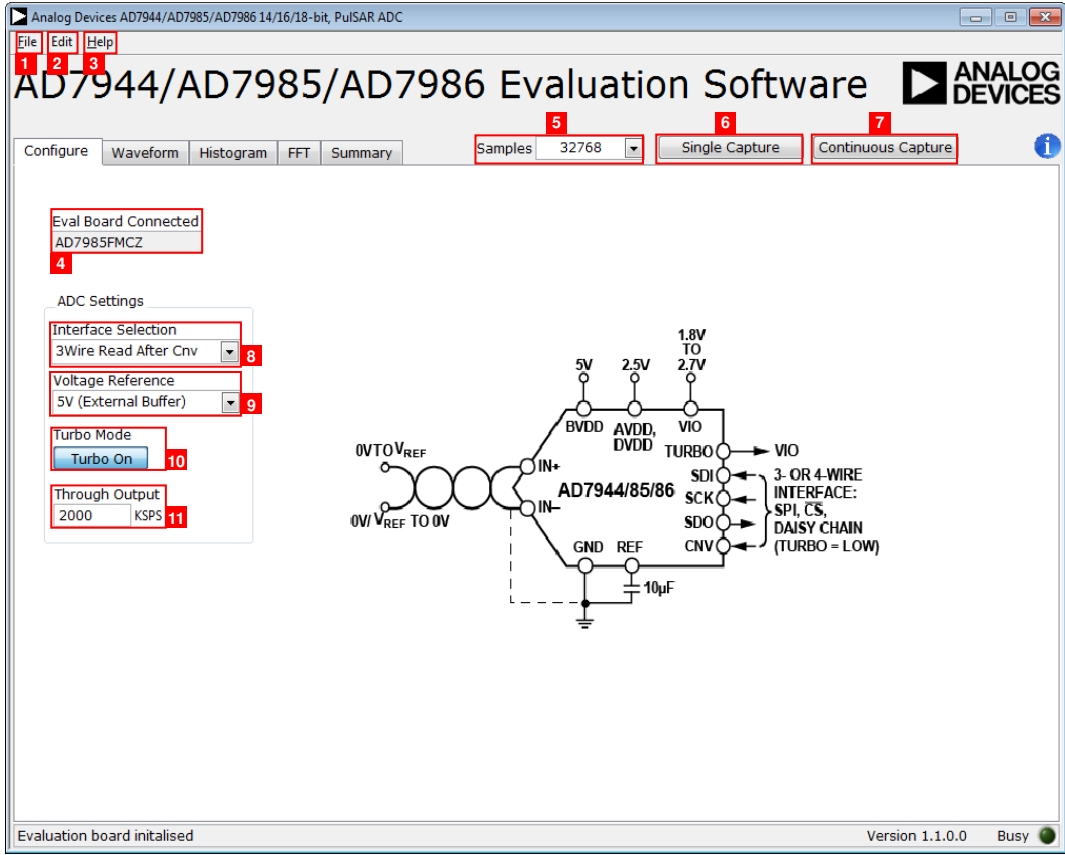

Figure 19. Evaluation Software Window
1. From the **Start** menu, click **Programs > Analog Devices > AD7944_85_86 Evaluation Software**. The main window of the software appears (see Figure 19).
This section describes the full software operation and all the windows that appear. When the software is launched, the main software window opens, and the software searches for hardware connected to the PC. The user software window launches as shown in Figure 19. The labels listed in this section correspond to the numbered labels in Figure 19.
The **File** menu, Label 1 in Figure 19, has the following options:
The **Edit** menu, Label 2 in Figure 19, provides the **Initialize to Default Values** option, which resets the software to its initial state.
The **Help** menu, Label 3 in Figure 19, offers help from the
This indicator, Label 4 in Figure 19, shows that the evaluation board is connected. In Figure 19, the connected evaluation board is the EVAL-AD7985FMCZ.
From the **Samples** drop-down menu, Label 5 in Figure 19, select the number of samples to analyze when running the software; this number is limited to 1,048,576 samples.
Clicking **Single Capture**, Label 6 in Figure 19, performs a single capture, whereas clicking **Continuous Capture**, Label 7 in Figure 19, performs a continuous capture from the ADC.
The **Interface Selection** drop-down menu, Label 8 in Figure 19, provides options for using 3-wire or 4-wire mode, reading during or reading after conversion, and no busy signal mode.
The options for using the external reference or internal reference are controlled by the **Voltage Reference** drop-down menu, Label 9 in Figure 19. The default value is set to 5 V (external reference and external buffer). The other voltage reference options are 4.096 V (external or internal reference) and 2.048 V (external reference). When using the external reference, it is recommended to use an on-board AD8031 as an external reference buffer.
The **Turbo Mode** button, Label 10 in Figure 19, provides the options of **Turbo On** or **Turbo Off** (normal mode). Note that the throughput must be manually changed when changing modes.
The **Through Output** field, Label 11 in Figure 19, controls the throughput. The default throughput (sampling frequency) is 2000 kSPS. The user can adjust the sampling frequency; however there are limitations around the sample frequency related to the SCLK frequency applied. The sample frequency must be at least 200 kSPS. The AD7985 is capable of operating a maximum sample frequency of 2500 kSPS in reading during conversion turbo mode.